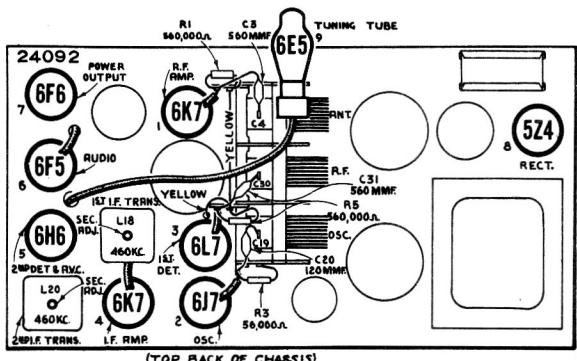

Figure 1—Radiotron and I-F Trimmer Locations
- Adjust the two magnetite core screws L20 and L19 (see figures 1 and 7) of the second i-f transformer (one on top and one on bottom) to produce maximum vertical deflection of the oscilloscopic image. This adjustment places the transformer in exact resonance with the 460-**kc** signal.